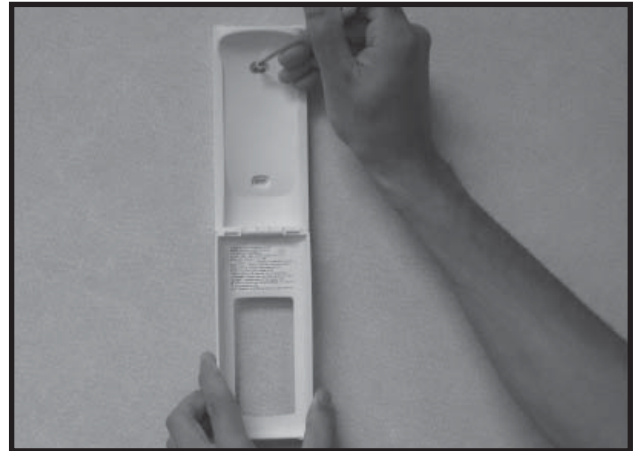

Figure 41. Mounting Remote Control Housing
3. Secure the remote control housing on a flat wall surface using the two screws and wall anchors provided. See Figure 41.